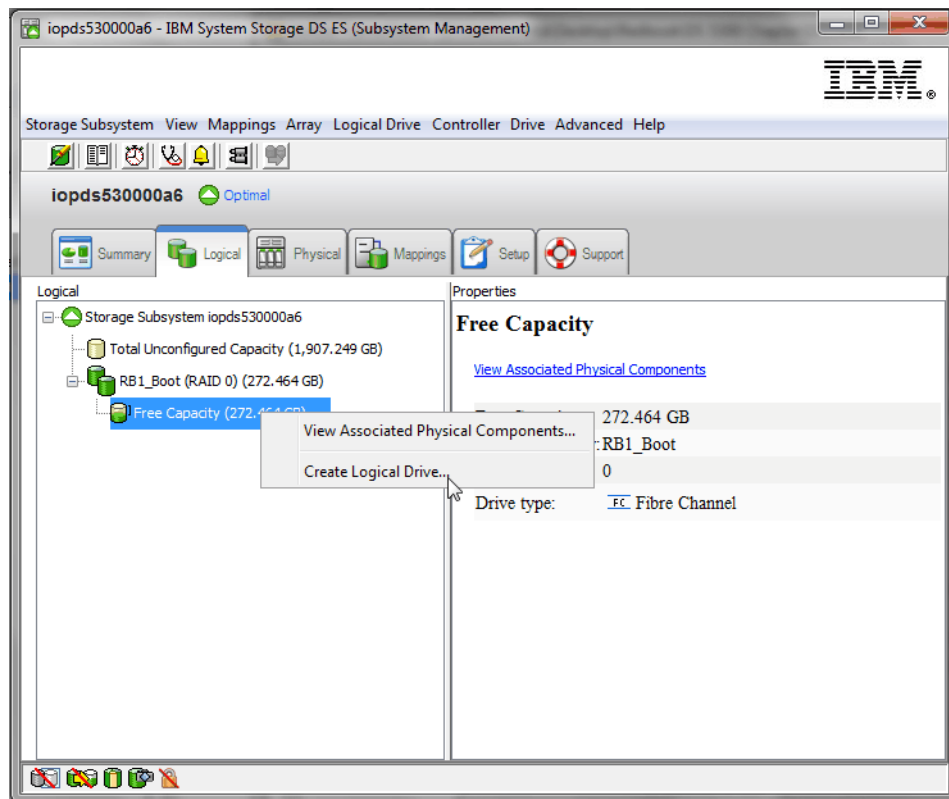

Figure 2-53 Selection create logical drive
1. To create the logical drive, in the **Logical** view, right-click the free space on the RB1_Boot array that was created, and click **Create Logical Drive**, as shown in Figure 2-53.